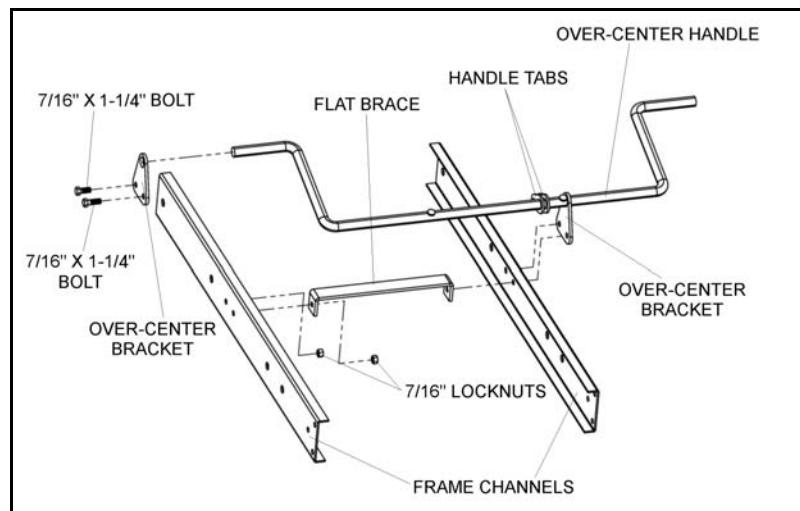
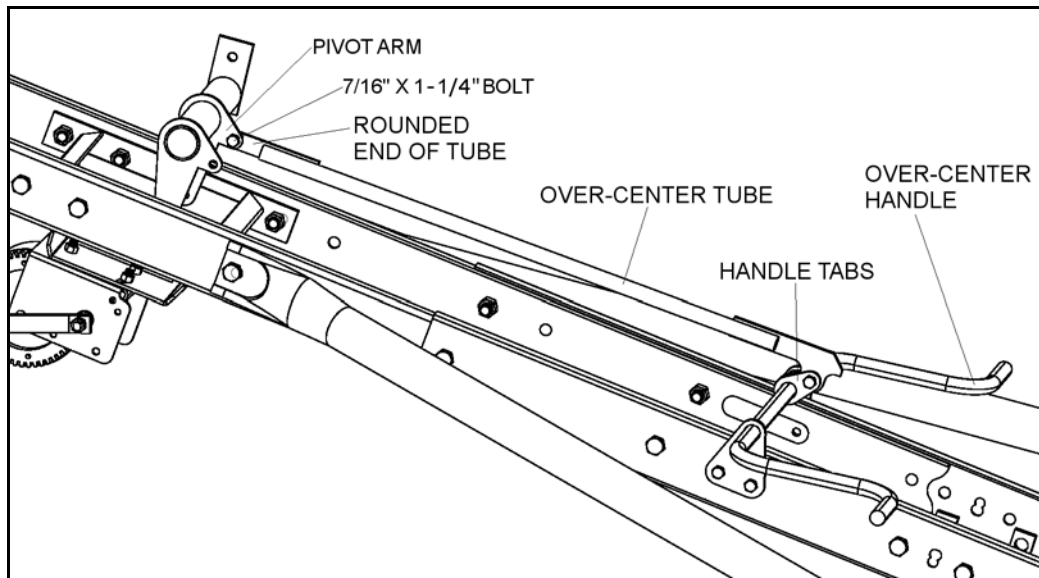

Figure 3.28
Figure 3.29
2. Install over-center handle on frame by sliding over-center brackets on to each end of handle (see Figure 3.28). Bolt brackets and flat brace to frame with two 7/16" x 1-1/4" bolts and 7/16" locknuts per bracket (see Figure 3.29).
3. Connect rounded end of over-center tube to pivot arm with a 7/16" x 1-1/4" bolt as shown in Figure 3.29. Leave bolt loose enough to allow pivot to move freely.
4. Bolt tab on over-center handle to over-center tube using a 7/16" x 1-1/2" bolt. Leave bolt loose enough to allow pivot to move freely. Ensure that over-center tube is above over-center handle when connecting (see Figure 3.29).